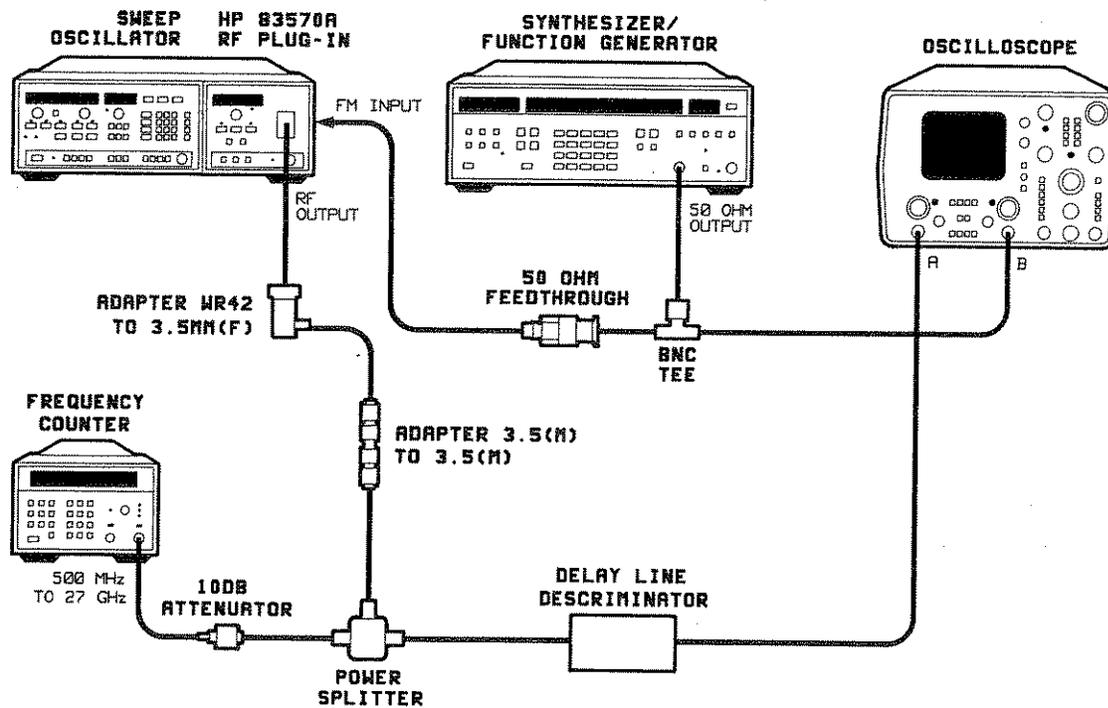

Figure 4-9. Test Setup for >100 Hz Frequency Modulation
7. Connect the equipment as shown in Figure 4-9. Do not connect the function generator/synthesizer.